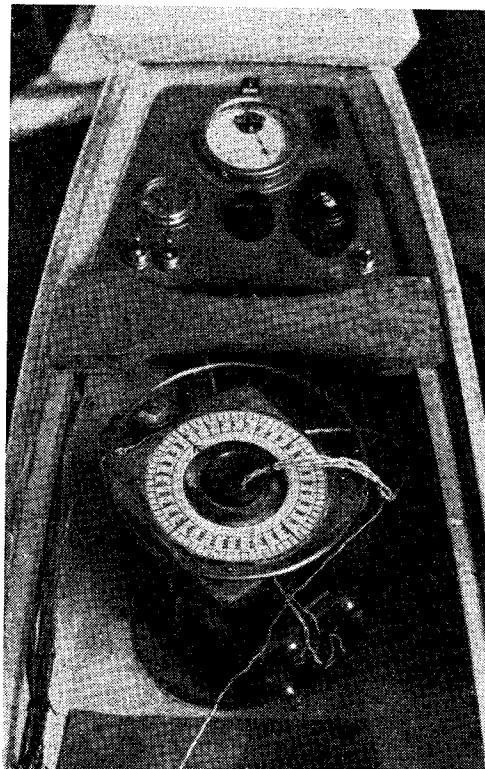

Fig. 4. Forward end of ship, showing test and control panel at top, and compass below
- (1) In the moving-coil milliammeter on the control panel (see Fig. 4). This is some 10 in. from the compass.
- (2) In the compass course-changing motor situated beneath the control panel and 8 in. from the compass.
- (3) A hefty one in the Weston relay, weight about 2 lb., situated amidships and some 22 in. from the compass.
- (4) Steering motor aft and 42 in. from compass.